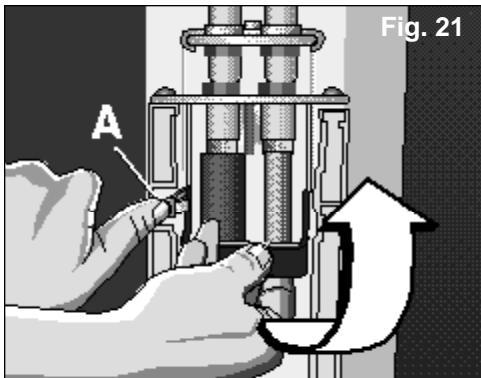

Fig. 21
- Keep tab A, which secures the position of the lever, pressed in. Pull it upwards (be careful with the spring of the lever), making sure that it remains at its maximum height, **Fig. 21.**
Make sure that the lever is secured by safety tab A, Fig. 21. Only then is the connection correct.